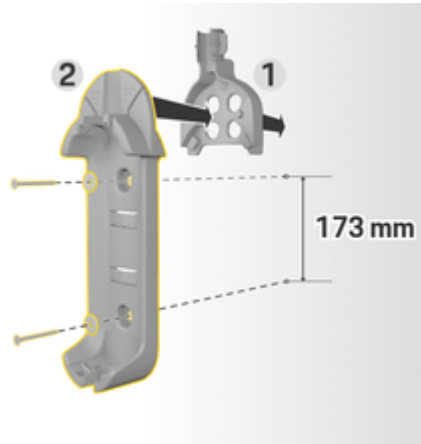

Fig. 8: Drilling dimensions
3. Press the basic wall mount **2** (Fig. 8) into the cable guide **1** (Fig. 8) from the front.